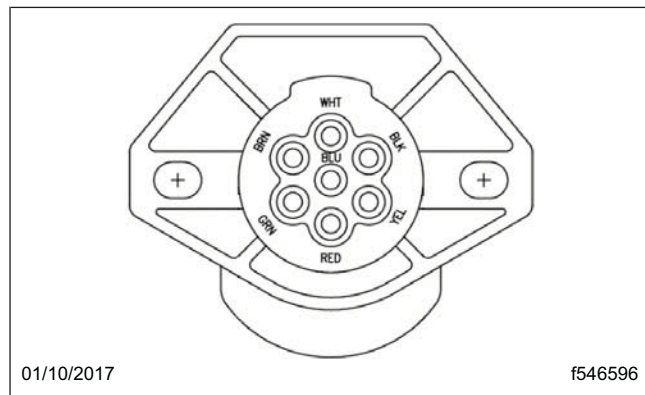

Fig. 34, Primary Receptacle Pinout
49. Verify that the primary receptacle (**Fig. 34**) is functioning properly by performing the following checks with the ignition key in the ON position: